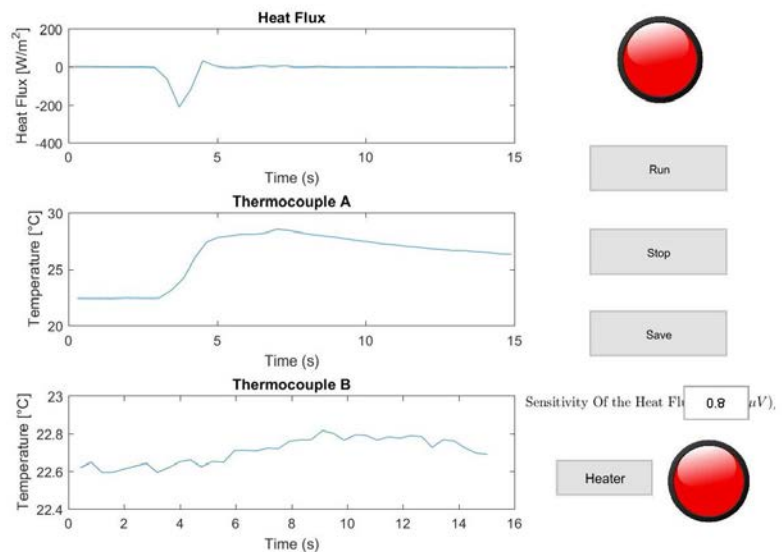

Fig. 3 Computer operating screen.
5. Start the program. A screen should appear as shown in Fig. 3.